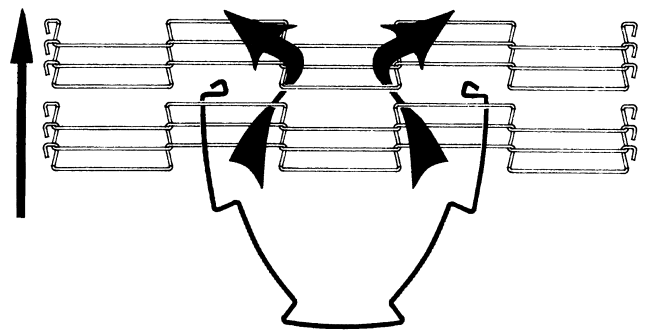

Figure 87: Path of Splicing Link
3. Install the wire belt splicing links, ensuring that the loop ends of the splice links are in the same direction as the wire belt loops. Refer to the illustration to the right. The arrows in the belt in Figure 87 illustrate the movement of the splicing strand between steps.